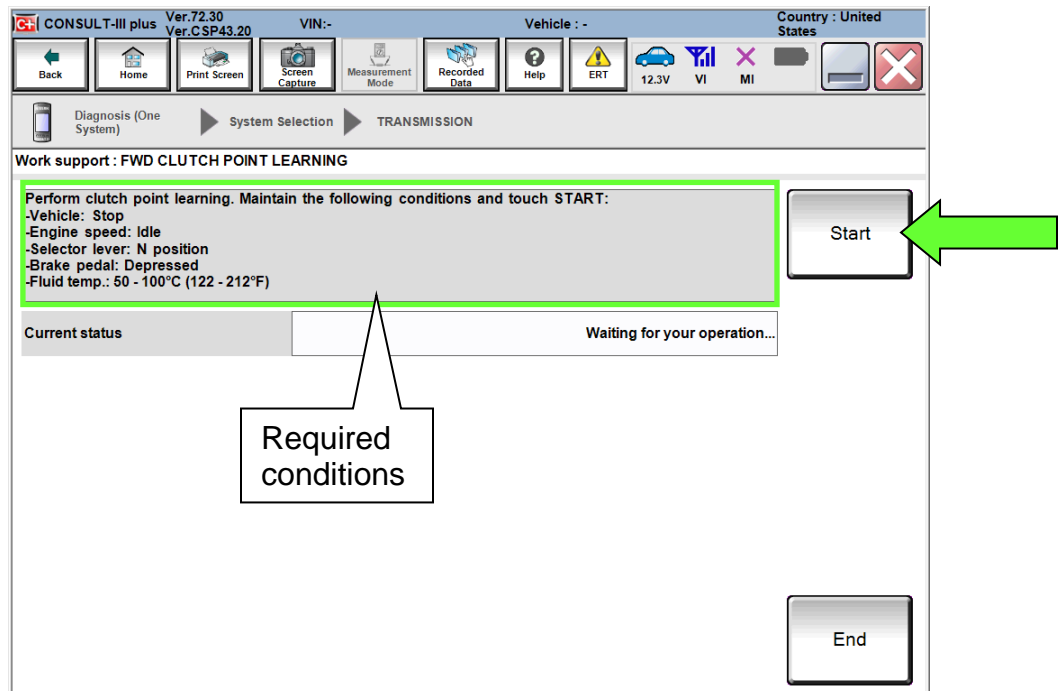

Figure 4L
- Confirm that all of the required conditions indicated in Figure 4L are being met.
11. While maintaining all conditions shown in Figure 4L and the “Current status” indicates “EXECUTING”, shift the CVT into **D** and then wait until the Current status indicates “COMPLETED”.